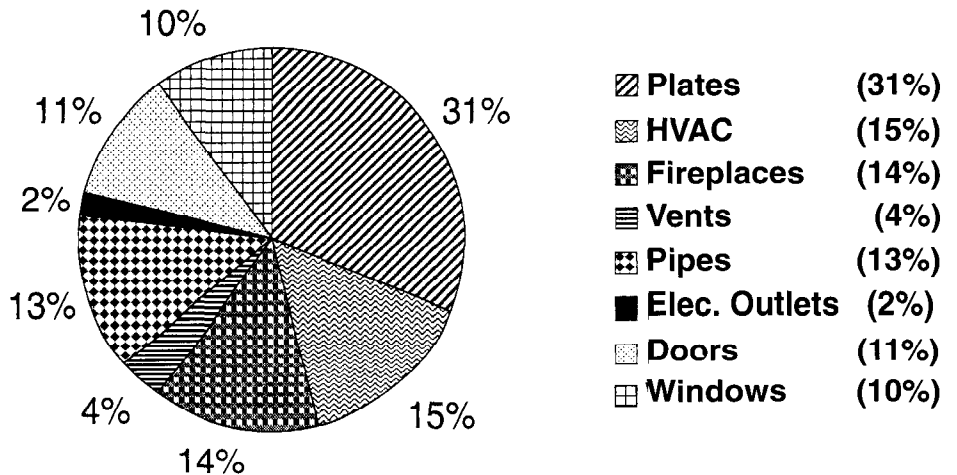

Figure 40 - Leading Causes of Air Leakage
- Air-sealing details** – Other energy-efficient construction details such as house wrap block the flow of air into the home and help prevent water from entering the structure. These barriers let the house “breathe” by allowing water vapor to pass through the wrap. Additional air-sealing details—sill plate sealers; caulking between adjacent framing members; sealing electrical, plumbing; and mechanical (i.e., ductwork) penetrations through the ceiling; and sealing around door or window rough openings—will translate into lower energy costs by eliminating paths through which air and moisture can enter the house. These detailed practices have a major effect on energy consumption and require the conscious efforts of both the builder and related trades. Figure 40 presents the typical sources of air leakage.